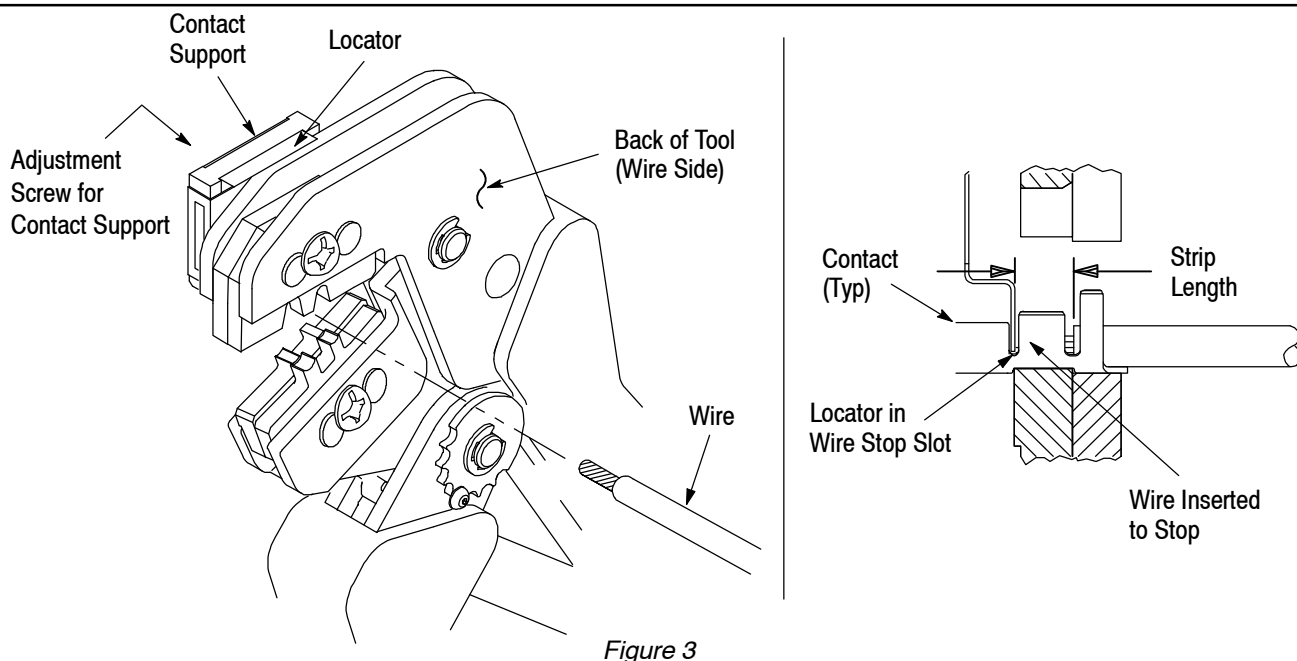

Figure 3
4. CONTACT SUPPORT ADJUSTMENT (Figure 3)
Refer to the table in Figure 1 and select wire of the specified size and insulation diameter. Strip the wire to the length indicated in Figure 1, taking care not to nick or cut wire strands. Select an applicable contact and identify the appropriate crimp section according to the wire size markings on the tool. Refer to Figure 3 and proceed as follows:
- Position the contact so that the mating end of the contact is on the locator side of the tool, and so that the open “U” of the wire and insulation barrels face the top of the tool. Place the contact up into the nest so that the movable locator drops into the slot in the contact. Refer to Figure 3. Butt the front end of the wire barrel against the movable locator.
5. Insert stripped wire into contact insulation and wire barrels until it is butted against the wire stop, as shown in Figure 3.
The crimped contact may stick in the crimping area, but the contact can be easily removed by pushing downward on the top of the locator (see Figure 3).